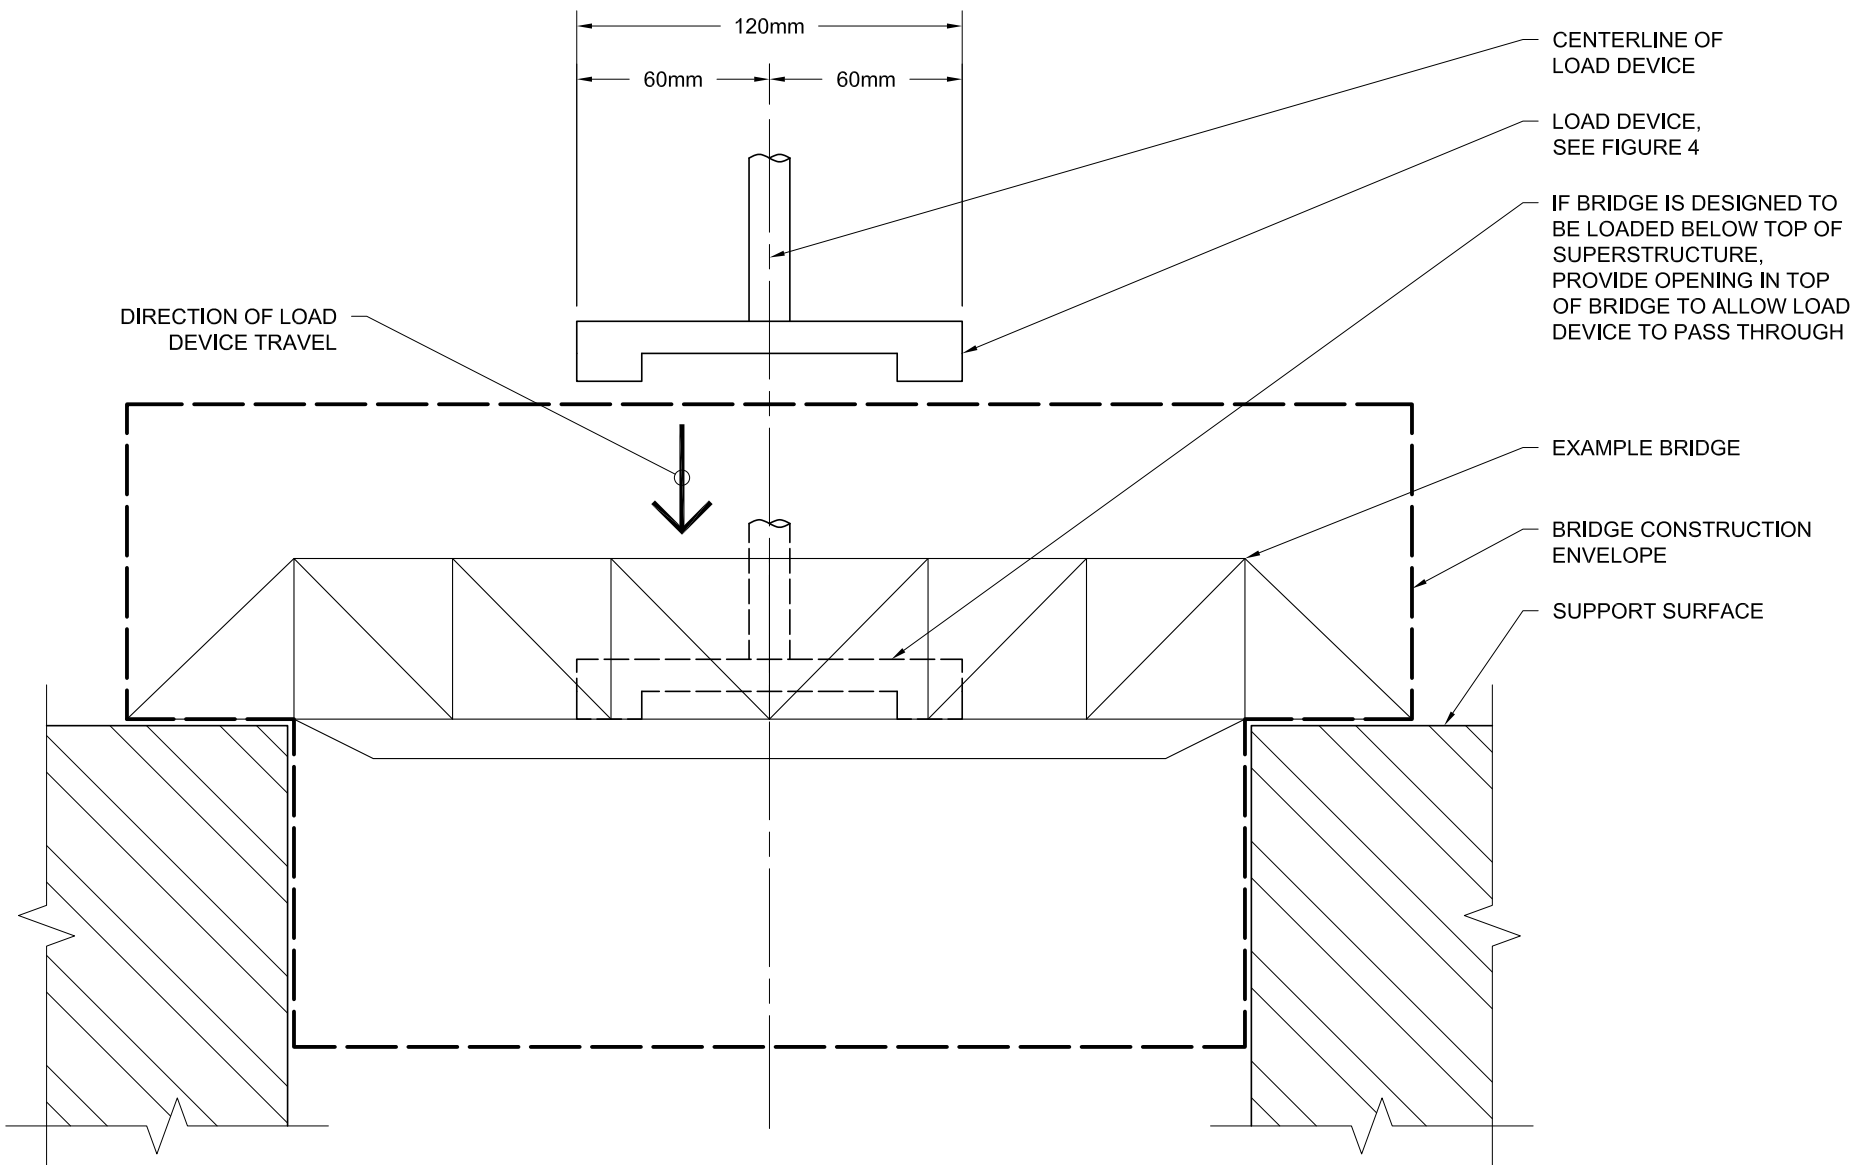
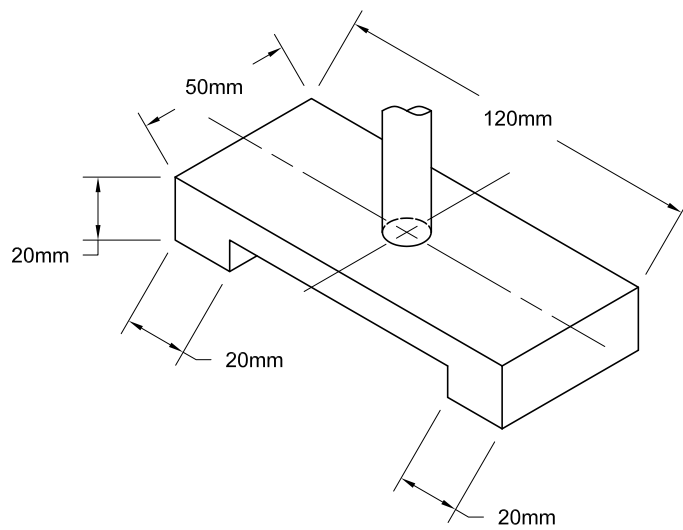

FIGURE 3 LOAD DEVICE AND EXAMPLE BRIDGE
FIGURE 4 ISOMETRIC VIEW OF LOAD DEVICE
- A. The load will be applied downward (from above) by means of a load device, as shown in Figure 3 and Figure 4. The plate will be attached to a rod from above to the center of the load device. The bottom surface of the load device will be horizontal and will not pivot during loading.